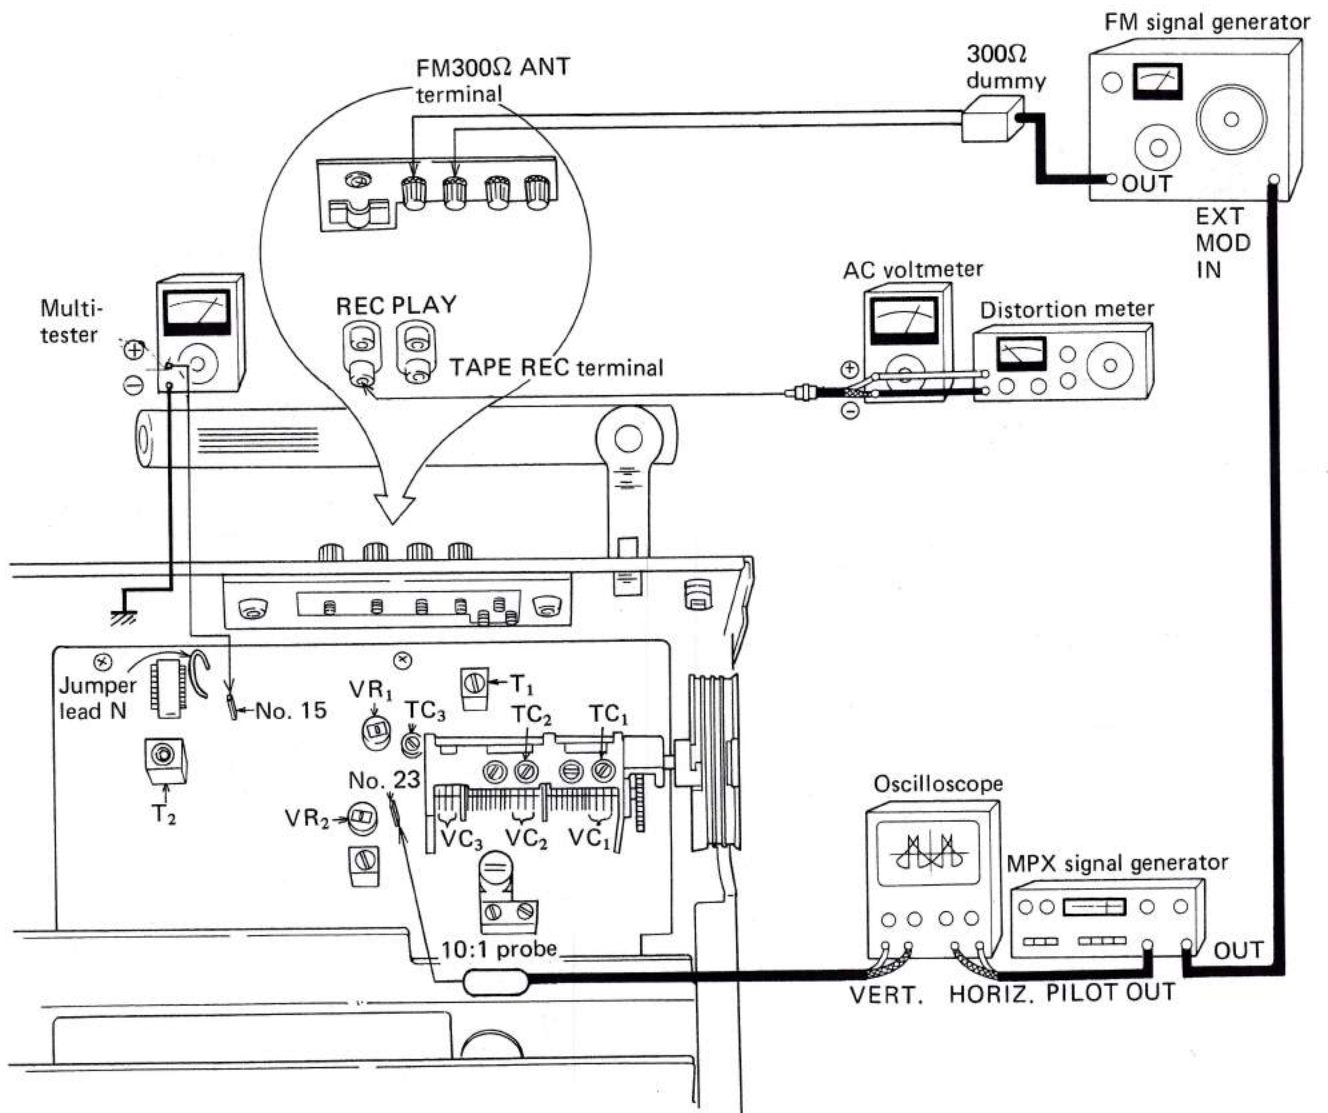

Fig. 11
1. Connect the test instruments as shown in Fig. 11.